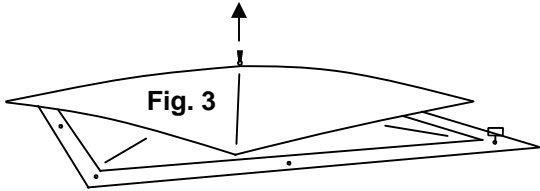

Fig. 3
3) Pull up on Top Hub or pull out Side Hub, whatever is easiest. (Fig. 3)